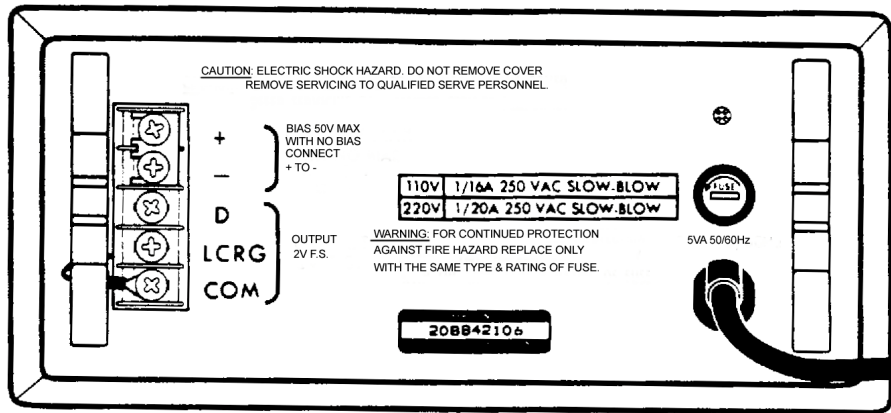

Figure 2-12
1. Locate the connector strip on the rear panel (see Figure 2-12).